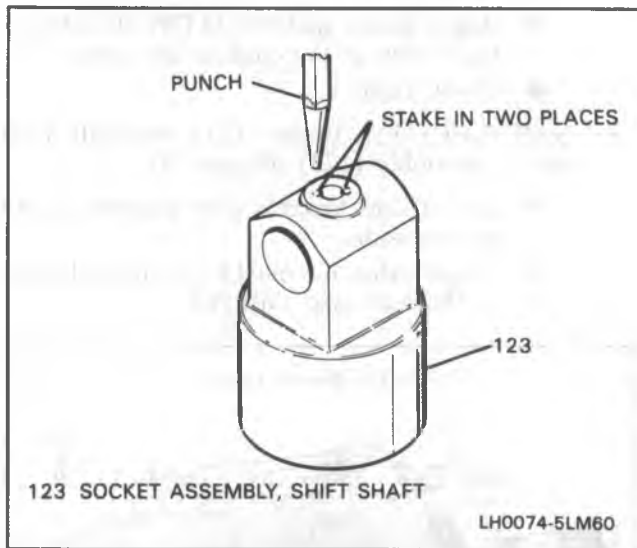

Figure 72 Staking Shift Shaft Socket Assembly
Use a new shift shaft socket assembly (123) or stake the socket as shown in Figure 72. This will prevent the roll pin (122) from walking down and rubbing on the reverse speed gear (25) causing a noise in 2nd, 4th and reverse (or any combination of the three gears). **DO NOT REUSE A STAKED SOCKET.**
24. Roll pin (120) (28 mm) and roll pin (122) (33 mm).